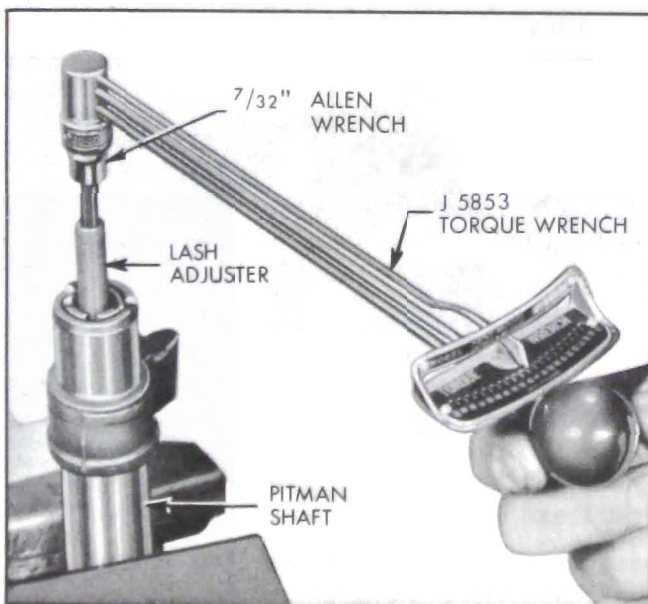

Figure 8-53—Checking Torque on Lash Adjuster
3. Check the torque on the lash adjuster. See Figure 8-53. If torque exceeds 15 inch pounds, pitman shaft assembly should be replaced.